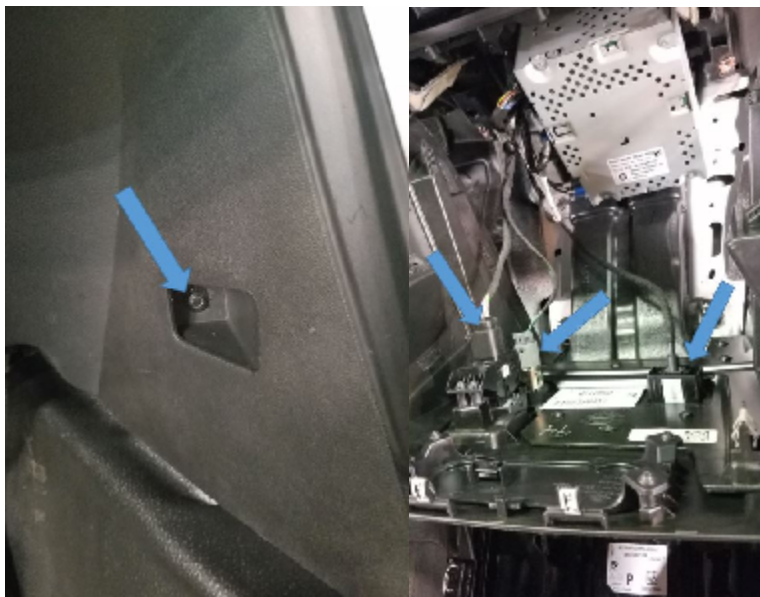

Fig. 2
2. Remove the 7mm fasteners on either side of the lower dash trim. Carefully pull the lower dash trim assembly rearward and remove the OEM 12V, USB, & E-Brake modules (T-20 fasteners). (Fig. 2)